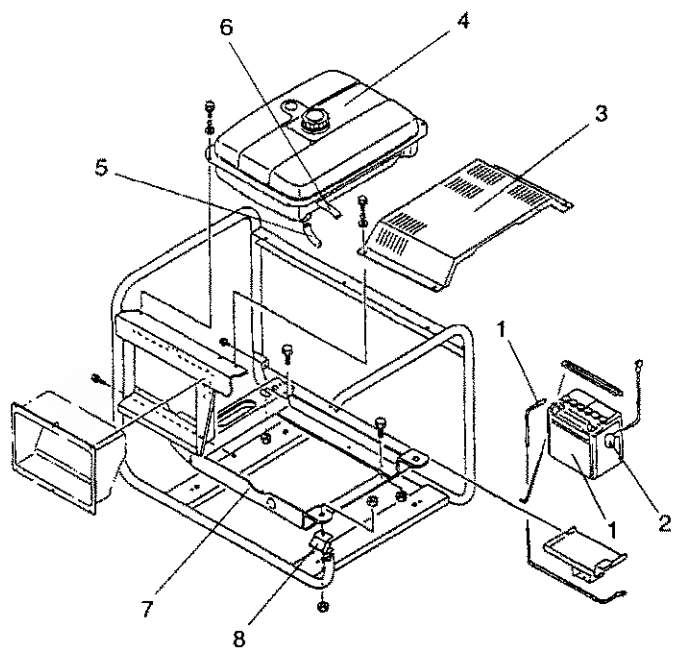

Fig. 5.2.2 Frame unit components
- Fig. 5.2.2 illustrates the scope of work and parts configuration.
- ① Disconnect battery cable 1.